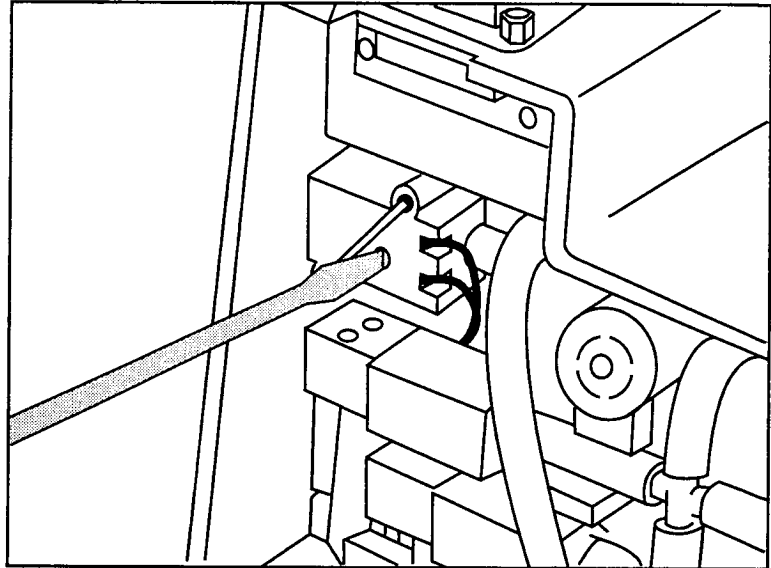

Figure 3-11. Overpressure Switch Adjustment
6. Locate the adjustment screw in the overpressure switch as shown in Figure 3-11 and adjust the screw to change the pressure alarm state so that the overpressure switch trips at approximately 300 mmHg.